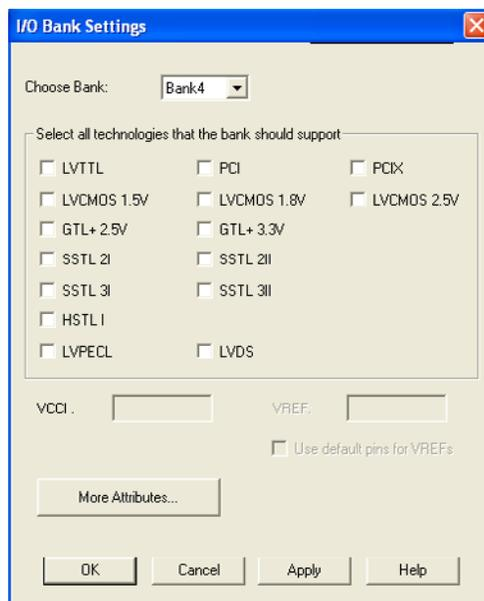

Figure 11 • I/O Bank Settings Dialog Box for Axcelerator Devices
4. Click **More Attributes** to set the low-power mode and input delay (as shown in Figure 11 on page 11). (These attributes are not supported in RTAX-5).